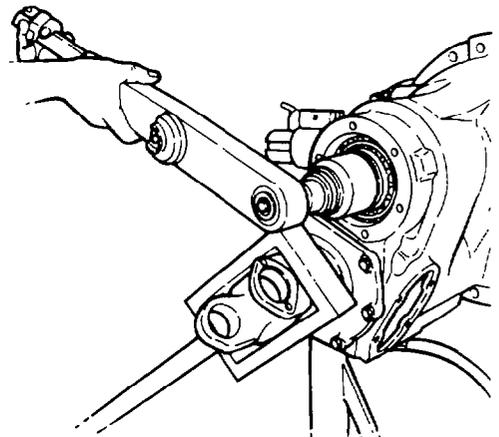

Figure 203 — Slackening Pinion Shaft Nut
- g. Position a yoke holding tool over the input shaft yoke, then slacken the pinion shaft lock nut while preventing the input shaft rotating (see Fig. 203). Do not remove the pinion shaft nut at this time.